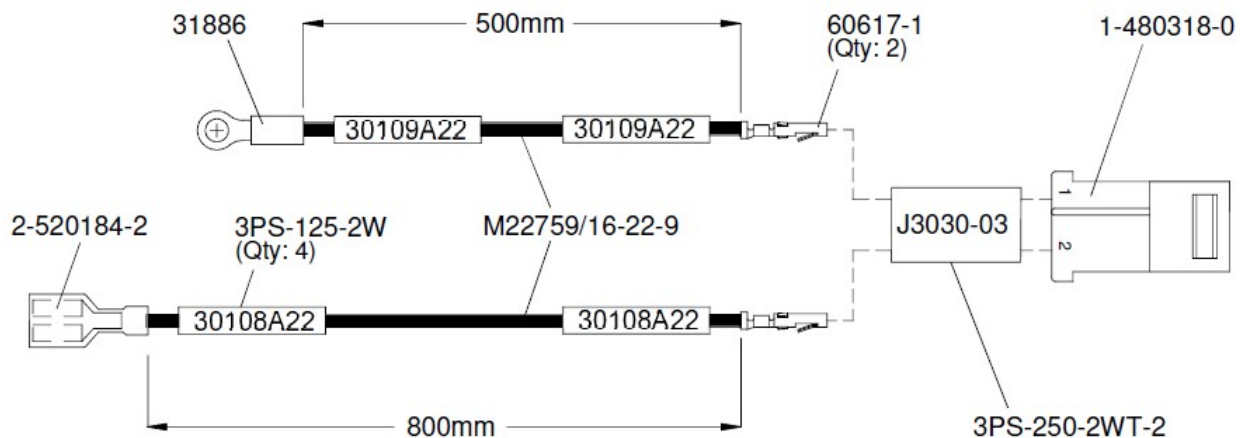

Figure 11: Preparation of Wires for J3030-03 Receptacle
11.2.2.1 Prepare the wires for the J3030-03 Receptacle (p/n: 1-480318-0) according to Figure 11.